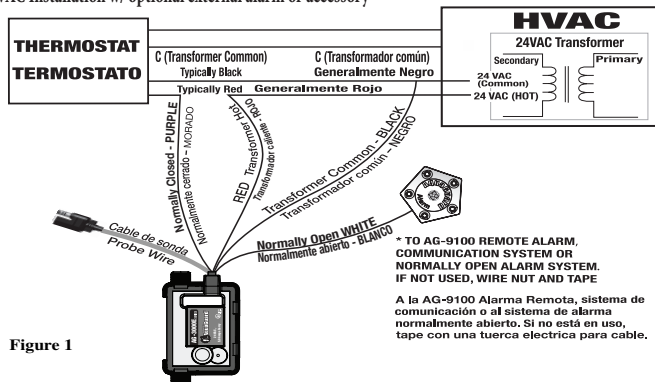

Figure 1
1. Ensure the power is disconnected to the HVAC unit at the main electrical panel prior to moving to step 2. For Breaking "Wall Thermostat" Power Wire (see Figure 1)
- D. "WHITE", "Normally Open" wire of AG-2550E must be connected to AquaGuard, AG-9100 External Alarm (see Figure 1) or Home Alarm System, or Communicating System, etc..